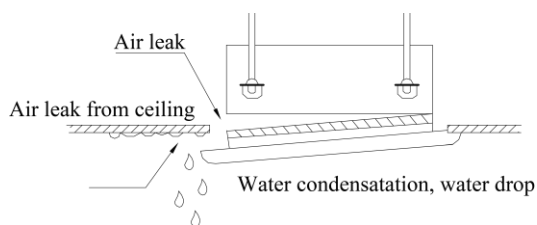

Fig. 2.14
- ①. Improper screwing of the screws may cause the troubles shown in Fig. 2.14.